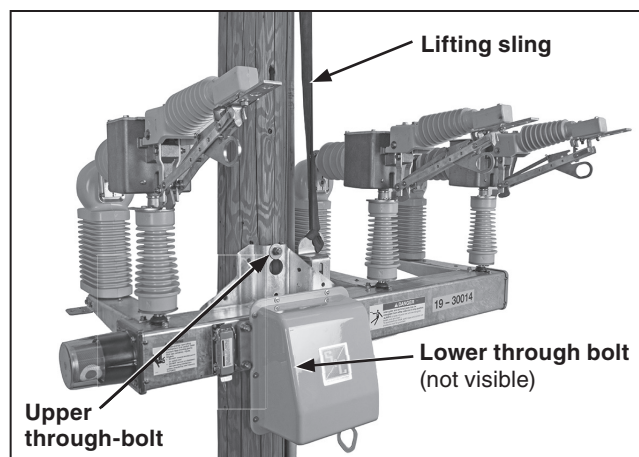

Figure 4. Slide the pole saddle onto the extended through-bolts.
STEP 5. Handle and lift the switch per the “Handling” section on page 7. When the switch is hoisted to mounting level, guide the switch so the through-bolts projecting from the utility pole slip into the holes in the pole-saddle. The saddle has a keyhole and an open slotted hole for this purpose. Lower the switch slightly so it bears on the through-bolts. Fully tighten the through-bolts, making sure the flat washer for each bolt is between the bolt head and the pole-saddle. See Figures 4 and 5.